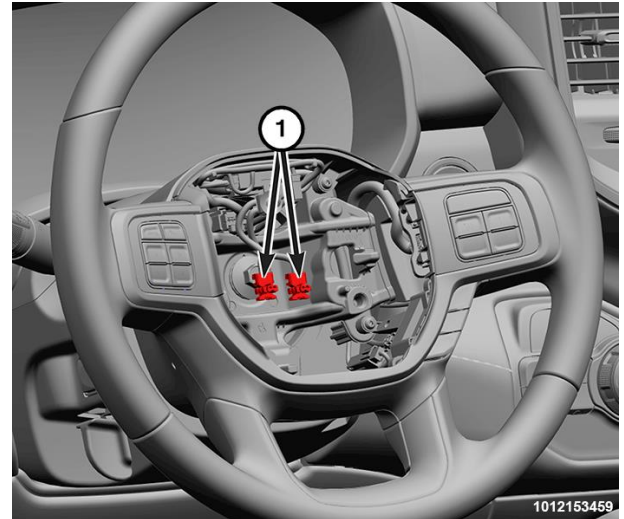

Figure 3 – Steering Wheel Wire Harness Connectors
11. Pull the DAB away from the steering wheel far enough to access the steering wheel wire harness connector to the DAB inflator initiators (1) (Figure 3).
12. The clockspring DAB pigtail wire connector insulators are secured by integral latches and a Connector Position Assurance (CPA) lock to the airbag tether cutter and inflator connector receptacles, which are located on the back of the floating horn switch plate and the DAB housing. Pull the lock straight away from the connector insulator, then pull the insulators straight away from the connector receptacles to disengage and disconnect them (Figure 3).
13. Connect the two steering wheel wire harness connectors (Figure 3).
14. Position the DAB close enough to the steering wheel to connect the steering wheel wire harness connectors to the DAB inflator initiators (1) (Figures 3 and 4).